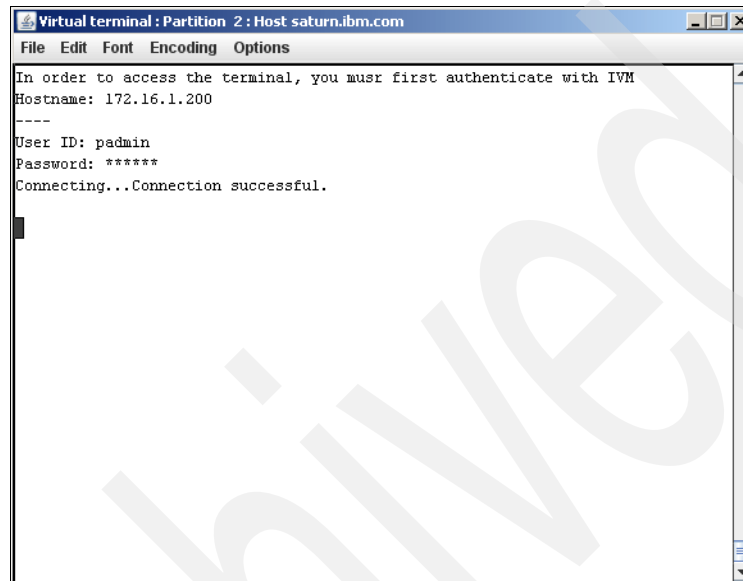

Figure 4-30 Virtual terminal connection
4. Authenticate on the Virtual IO Server to get the virtual terminal connected. You may use the account padmin with the default password padmin here in case you have not yet created your own account. After the authentication is done, a message will be shown that the terminal has connected, as shown in Figure 4-30.